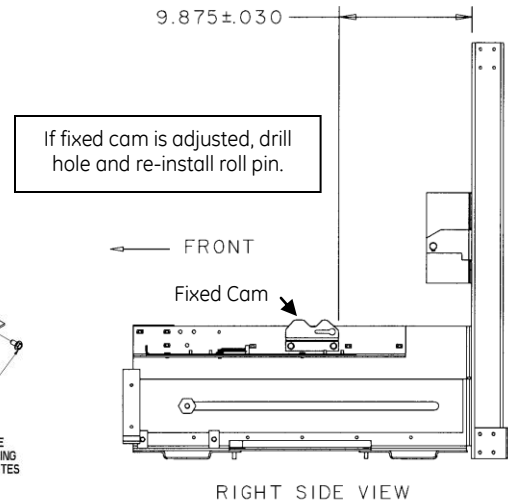

Fig. 3
5. If needed, adjust fixed cam as shown in Fig. 3. Screws may need to be loosened and roll pin removed in order to make adjustment. Torque hardware to 7-9 Ft-Lbs. Drill 0.1875 diameter hole through the fixed cam and side frame. Reuse and install roll pin.